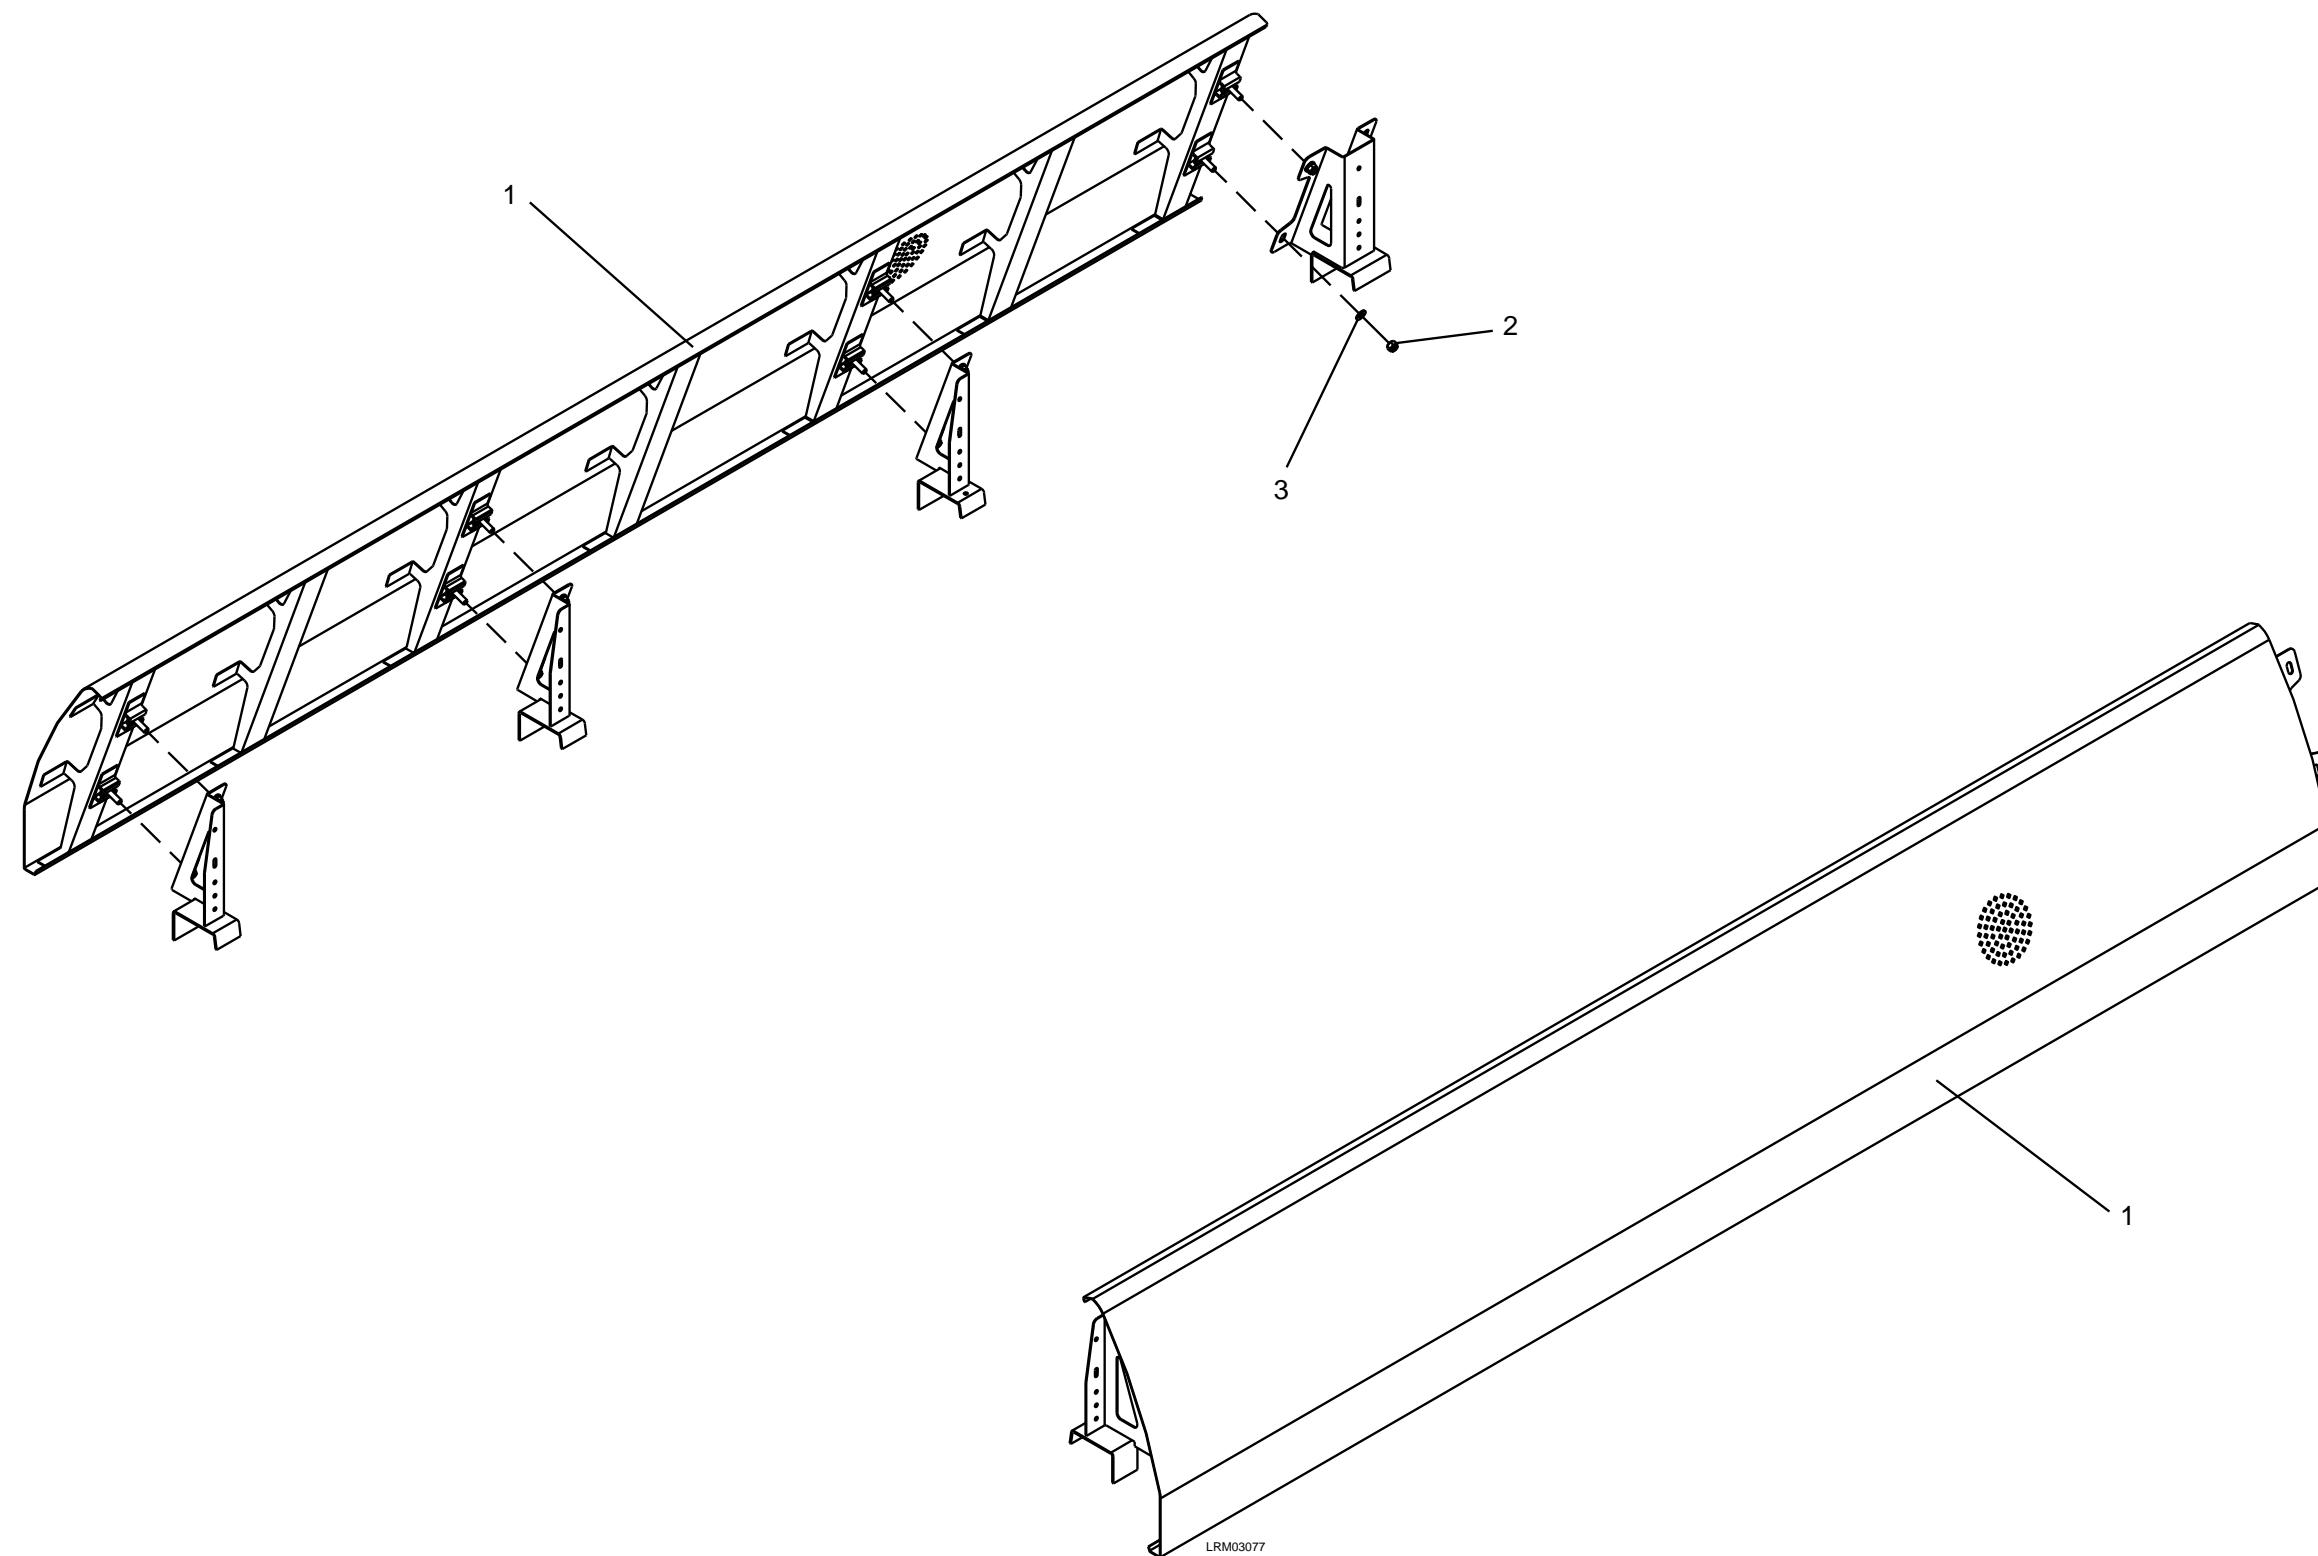

Figure 7-123: Roof Shroud, Group A
1. Remove the eight M10 ESNA nuts (2) and M10 plain washers (3). See Figure 7-123.
2. Carefully remove the Roof Shroud (1).